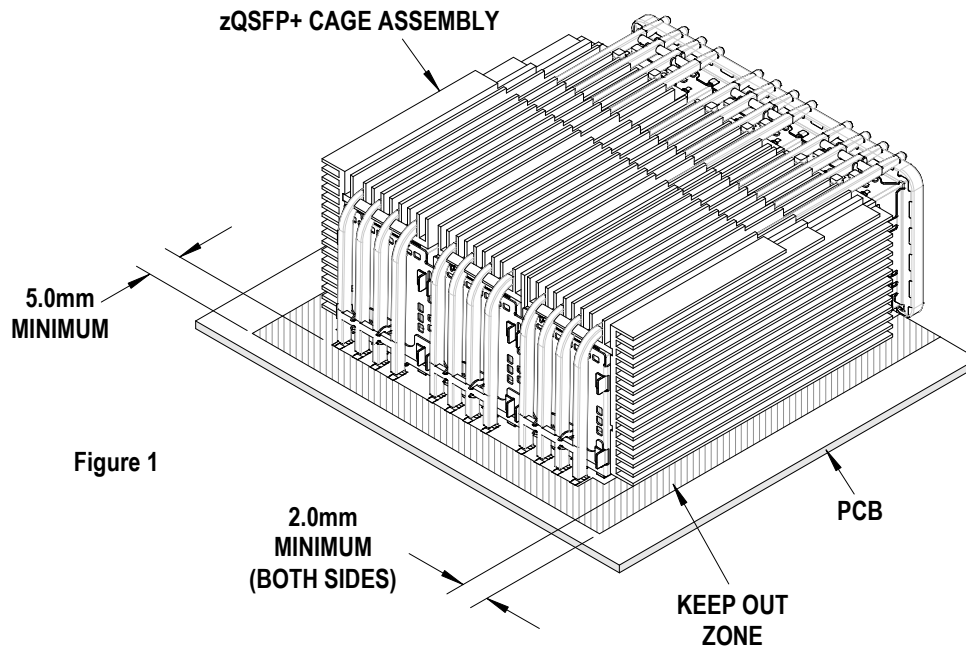

Figure 1
2. These tools require a "Keep Out Zone" around the connector free of components. The right and left sides should be 2mm (0.08") and the rear of the connector should be 5.0mm (.197"). See Figure 1.